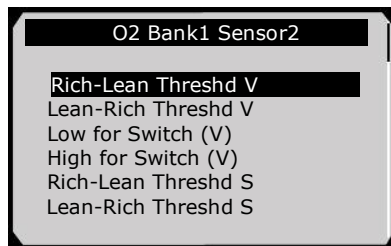

Figure 6.26
- 4) View test results of the selected O2 sensor. (Figure 6.26)